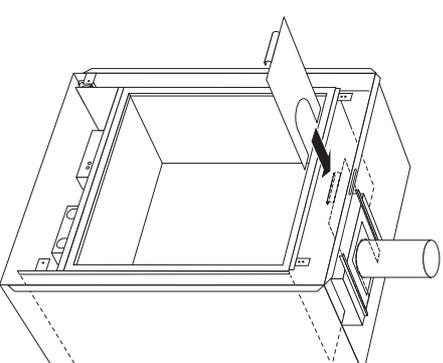

fig. 10
10. Turn the clamping plate up-side down and slide the plate between the guides so that its ends grip around the pipe opening (See fig. 10). Make sure that the flue collar plate is pressed onto the burner chamber.